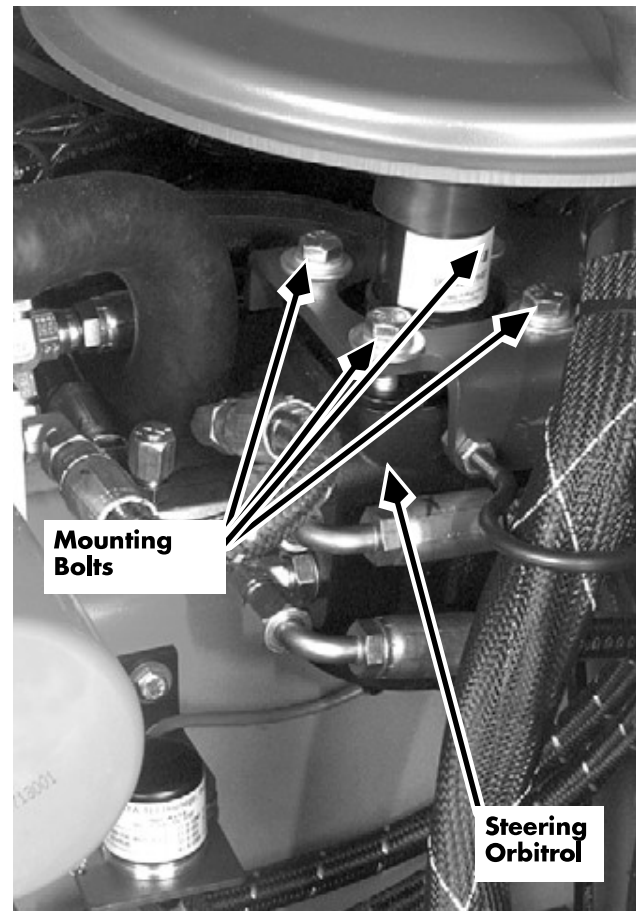

Figure 7-20: Steering Orbitrol (Series EZ-B shown)
5. Remove the four (4) mounting bolts securing the orbitrol to the tractor bracket. Note the presence of alignment shims, if used. See Figure 7-20.